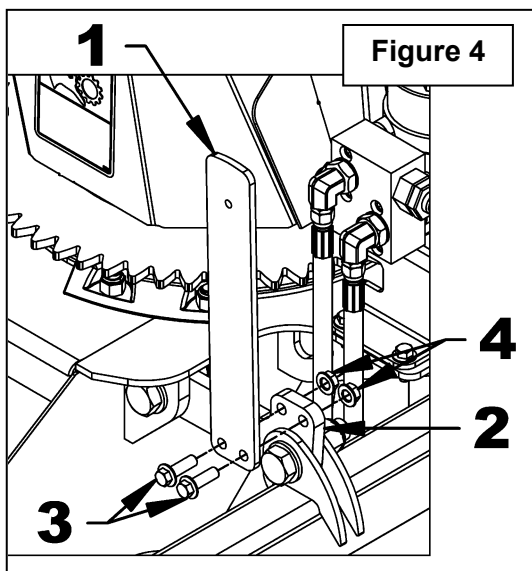

Figure 4
7. **Figure 4:** Install the hose support on snowblower with two 3/8"NC x 1 1/4" serrated flange bolts and 3/8"NC serrated flange nuts as shown in the figure.